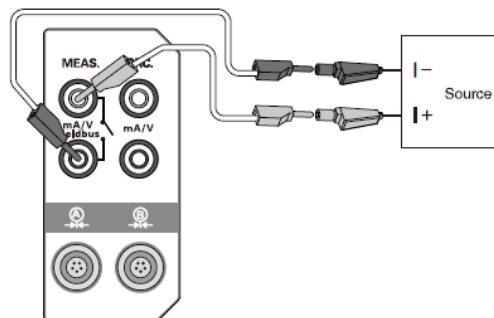

Figure 9 Current measurement
2. Connection: Connect the electric circuit as shown in Figures 9 and 10.